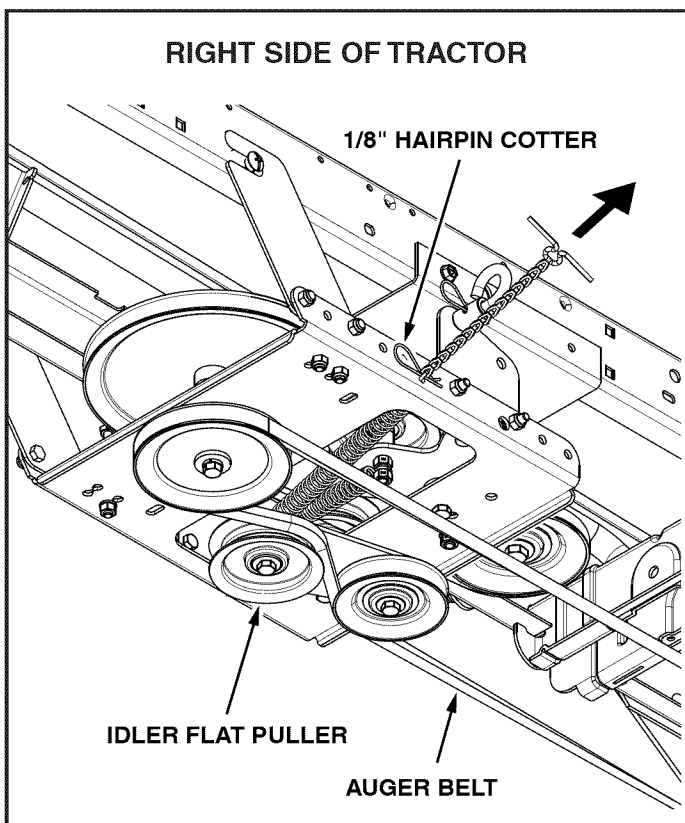

FIGURE 31 VIEWED FROM UNDERNEATH
**NOTE:** To prevent the chain from dragging on the ground, loop the end of the chain through the pivot lock pin. Refer to figure 31 on page 16.
### STEP 33: (SEE FIGURE 31)